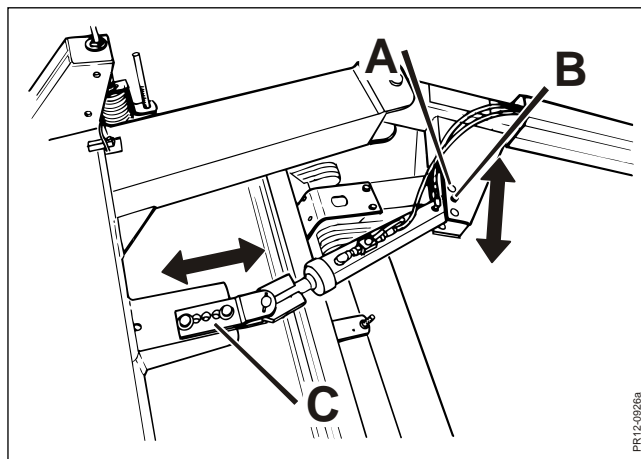

Fig. 3-4
**Fig. 3-4** From the factory bracket **C** is placed in a basic setting, which meets above conditions in work and transport, respectively. In order to obtain the correct positions of the drawbar the swivel cylinder must be placed in hole **A** for GMS 320 and hole **B** for GMS 280. Check that the bracket is always fixed with 2 bolts in pos. **C**.